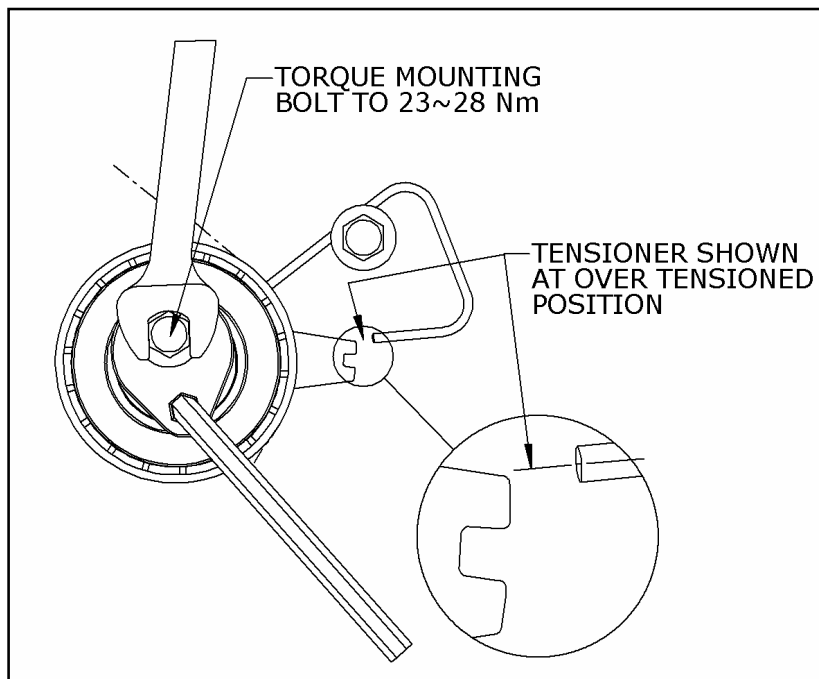

Figure 5: Tensioner shown at Over Tensioned Position
9. Continue rotating the Pivot Shaft until the open end of spring tang moves past the arm nominal notch and approximately reaches the edge of the arm pointer. While holding the pivot shaft, torque the M8 Mounting Bolt to **23~28 Nm** (Figure 5).